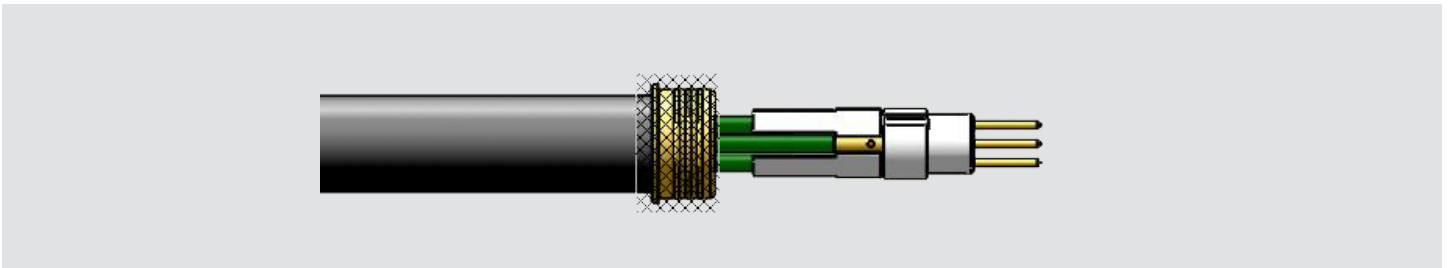

Figure 9
6. Install front insert until it touches the front face of the rear insert. See Figure 9.